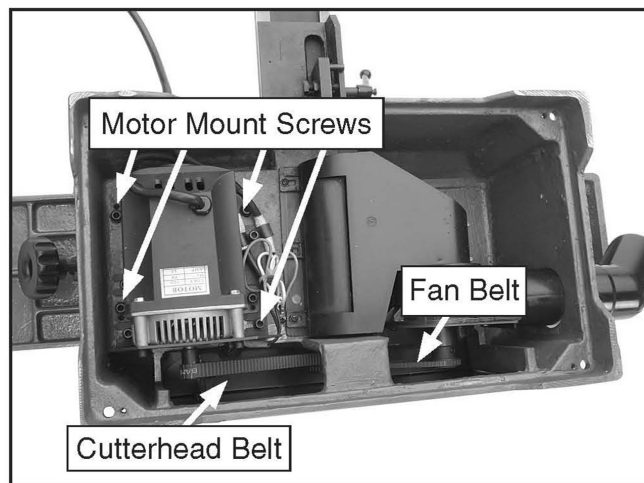

Figure 43. Motor mounting screws and belt locations.
6. Loosen the four motor mounting cap screws (see **Figure 43**), but do not remove them. This will release the belt tension.